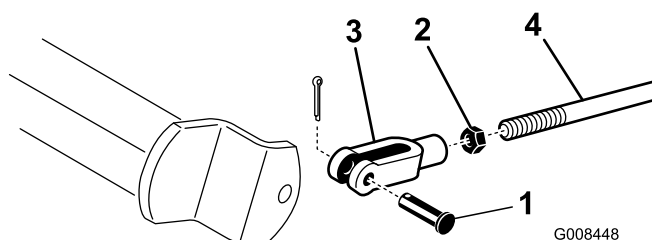

Figure 46
2. If the brakes do not lock equally, disconnect the brake rods by removing the cotter pin and clevis pin (Figure 46).
3. Loosen the jam nut and adjust the clevis accordingly (Figure 46).
4. Assemble the clevis to the brake shaft (Figure 46).